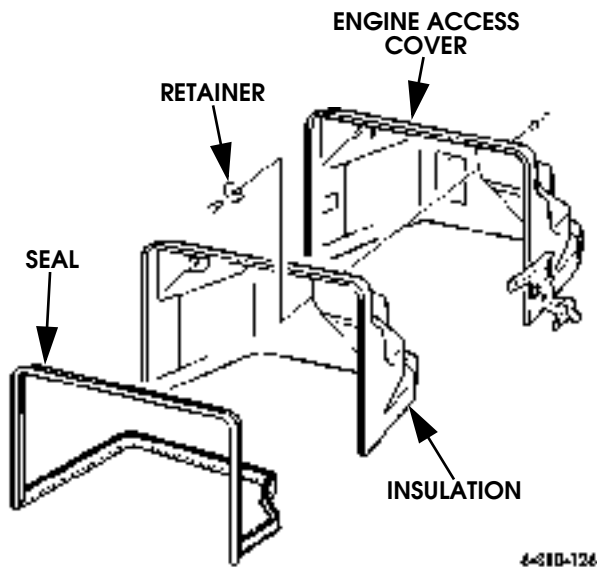

Figure 10-28: Engine Access Cover, Insulation, and Seal Breakdown
1. Remove rivets, retainers, and insulation from engine access cover (Figure 10-28).
6. Install seal on access cover (Figure 10-28).